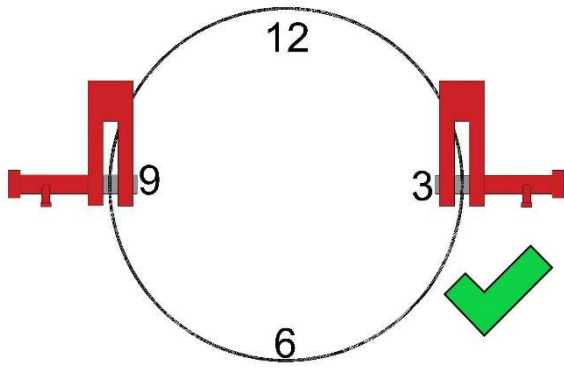
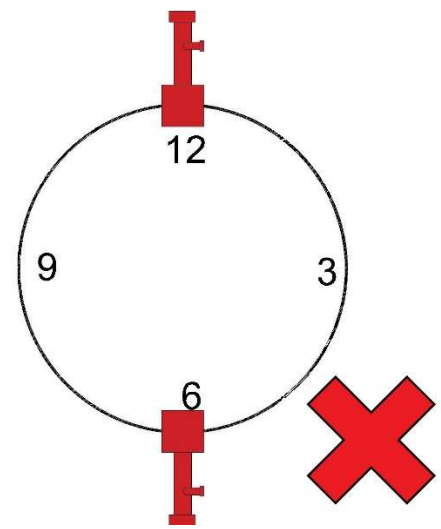

Fig. 1
Fig. 2
- Always use 40 Ton Shackles in a pair, engaged in the 9 o'clock and 3 o'clock positions. (Fig. 1)
- Ensure the Main Plunger Pin is engaged in the horizontal position (Figures 1&4), never in the vertical position (Figures 2&3).
- User must not use ropes as 'Tag Lines' under any circumstance. Full attention by the User must be given to both ropes attached to the Trip Lanyard(A) and the Plunger Lanyard(B) at all times to prevent them from becoming 'fouled' and/or 'snagged'.
- Main Plunger Pin must have zero (0) weight on Pin. Plunger Pin requires 90-100 lbs. to retract. If weight of shackle is on pin, the pin requires greater than or equal to 200 lbs. to retract.